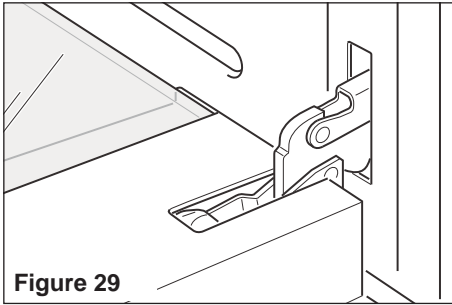

Figure 29
- Open the door to the full extent (fig. 29).